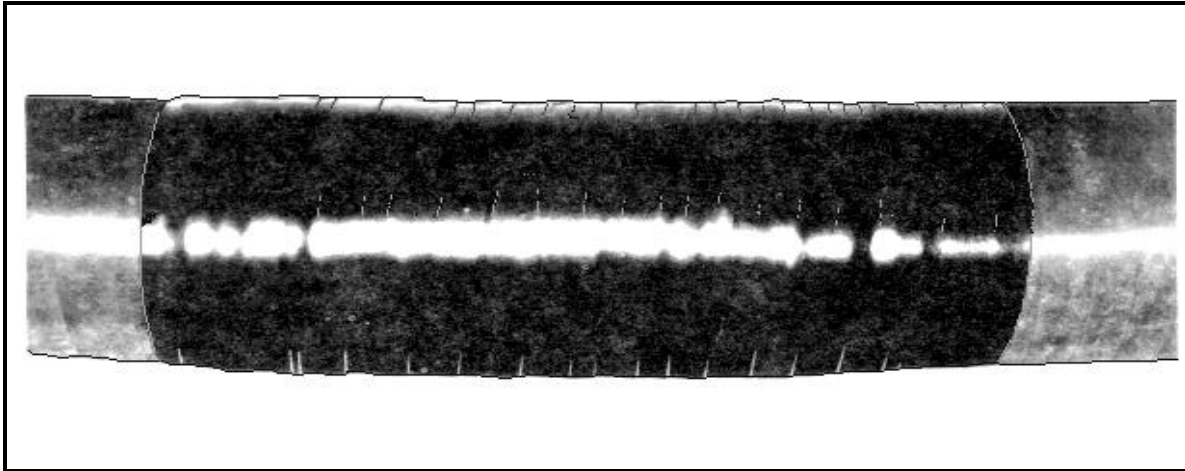

Figure 27-11. Completed tape patch
- Keep some pressure on the hose so that it stays cylindrical. A tape patch is shown in Figure 27-11 .